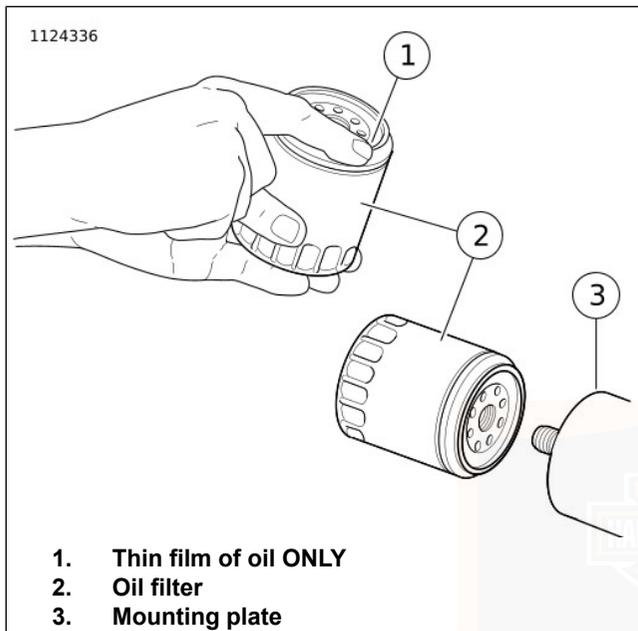

Figure 43. Applying Thin Oil Film
7. See Figure 43. Lubricate gasket with clean engine oil and install **new** oil filter on filter mount. Hand-tighten oil filter one-half to three-quarters of a turn after gasket first contacts filter mounting surface. Do NOT use oil filter wrench for installation.